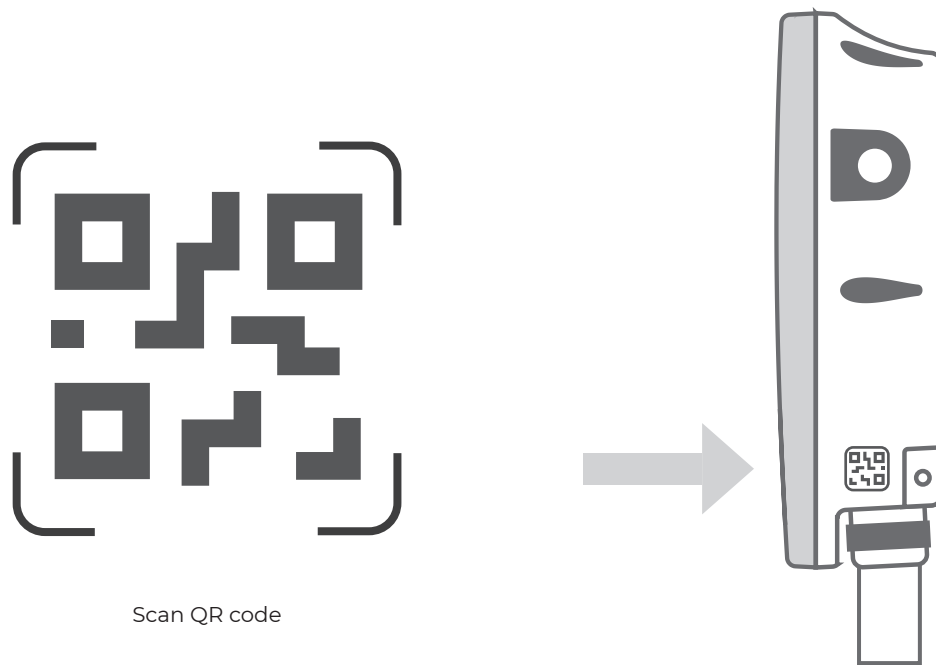

Fig.6.2.5
5. Scan the QR code which is attached on the charging station. (See Figure 6.2.5)